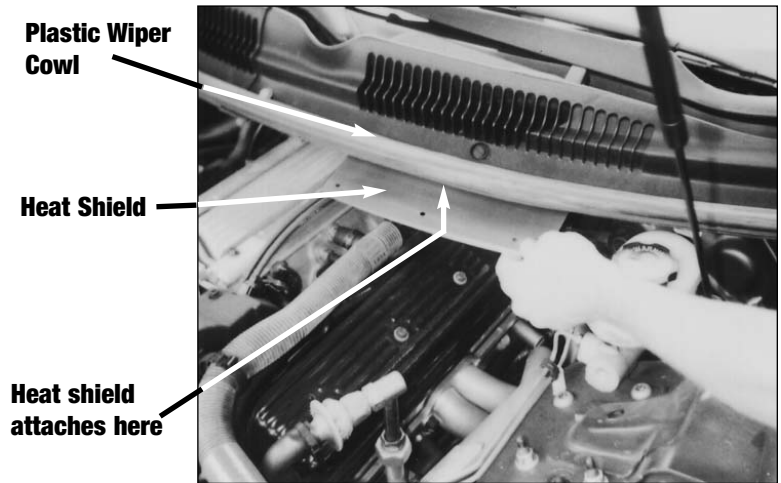

Fig. 2
1. Push out three plastic pushpins (to the left of center) holding seal to plastic cowl, and attach heat shield using three 10-24 screws and nylock nuts provided. Install cowl heat shield directly over left header. Be careful not to overtighten as screws could pull through rubber seal (see Figure 2).